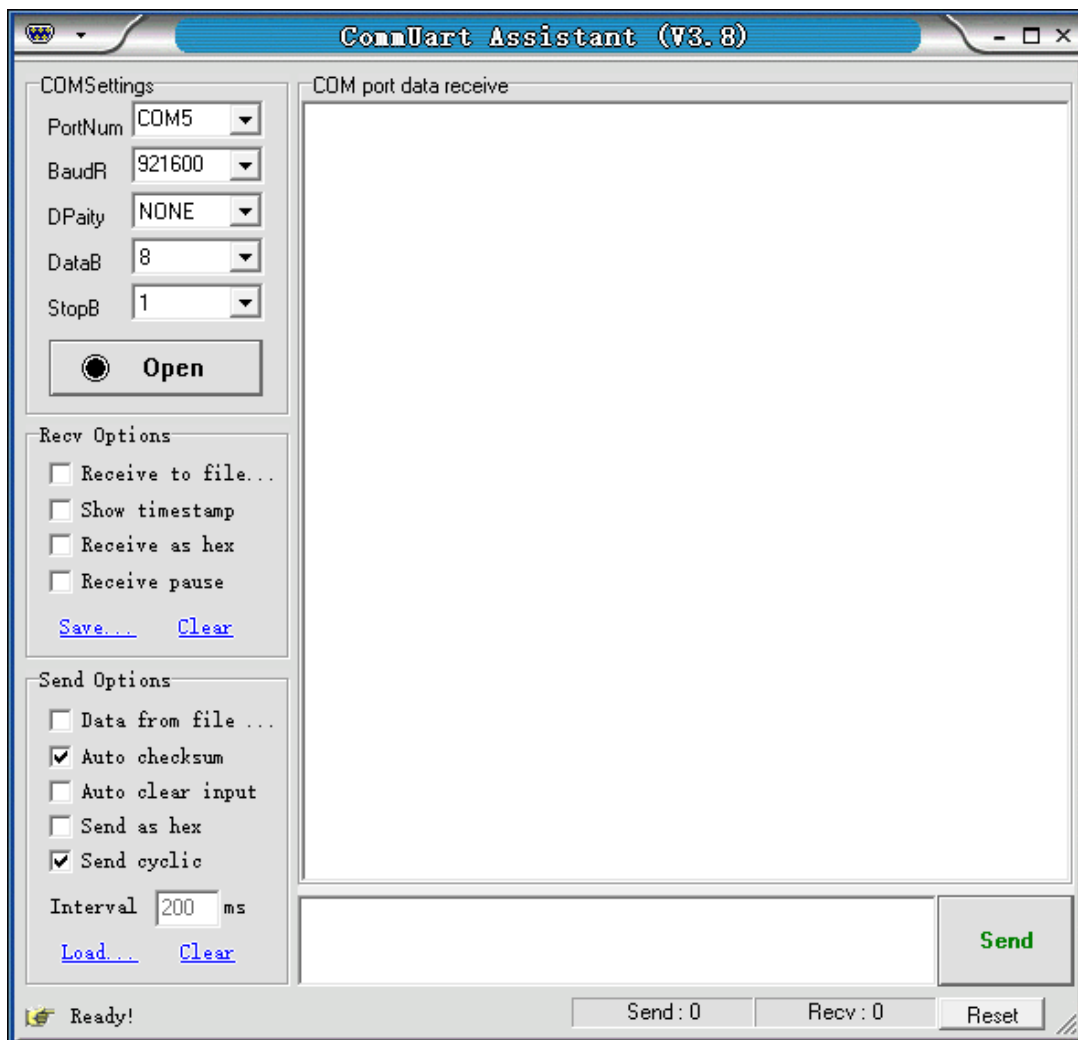

Fig.103 “CommUart Assistant” Software display
3. Open the "Uart_Assistant" folder in CD and double click the file UartAssist.exe. Then you see the software interface, as is shown in Fig.103.